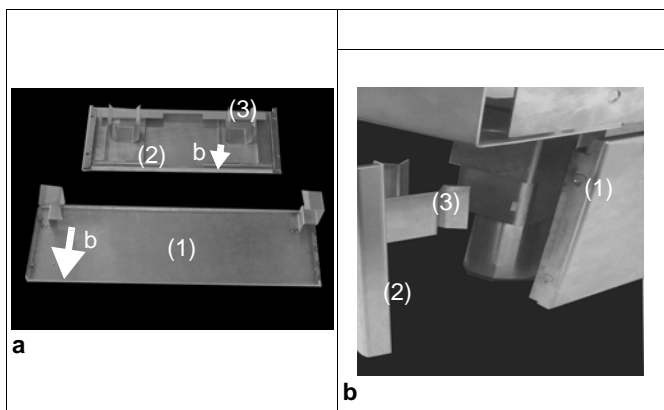

Fig.3 Plinth assembly
- Right and left side plinth (1 / Fig.3).
- Plinth for the front and, for free-standing appliances, for the rear also (2 / Fig.3).
- ⇒ Push the side plinth (1 / Fig.3) onto the legs from front to rear using the fastener. The larger gap (b / Fig.3) on the fastener must be at the bottom.
- ⇒ Affix the fasteners (3 / Fig.3) to the plinth (2 / Fig.3).
- ⇒ The larger gap (b / Fig.3) on the fastener must be at the bottom.
- ⇒ Attach the plinth with the fasteners (3 / Fig.3) onto the feet.